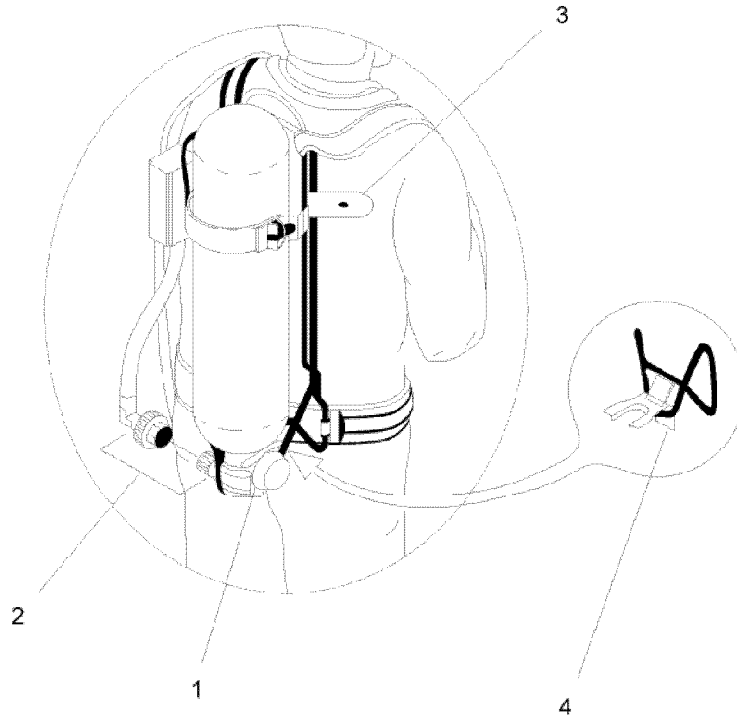

Figure 077-3-31. Cylinder Removal and Replacement
- (a) Fully close cylinder valve by rotating handwheel (1, Figure 077-3-31) toward user if SCBA is donned, or clockwise if SCBA has been doffed.
- (e) Rotate hand coupling (2, Figure 077-3-31) counterclockwise to remove high-pressure hose assembly or RIC UAC assembly from cylinder valve.
- (f) Unsnap and pull up on over-center latch mechanism (3, Figure 077-3-31) to release cylinder band clamp.
- (g) With one hand, grab cylinder valve and press on locking tab (4, Figure 077-3-31) with other hand.
- (h) Push up on cylinder assembly approximately one inch until disengaged from backframe hook (4, Figure 077-3-31). Then pull cylinder assembly down and out of backframe and harness assembly.